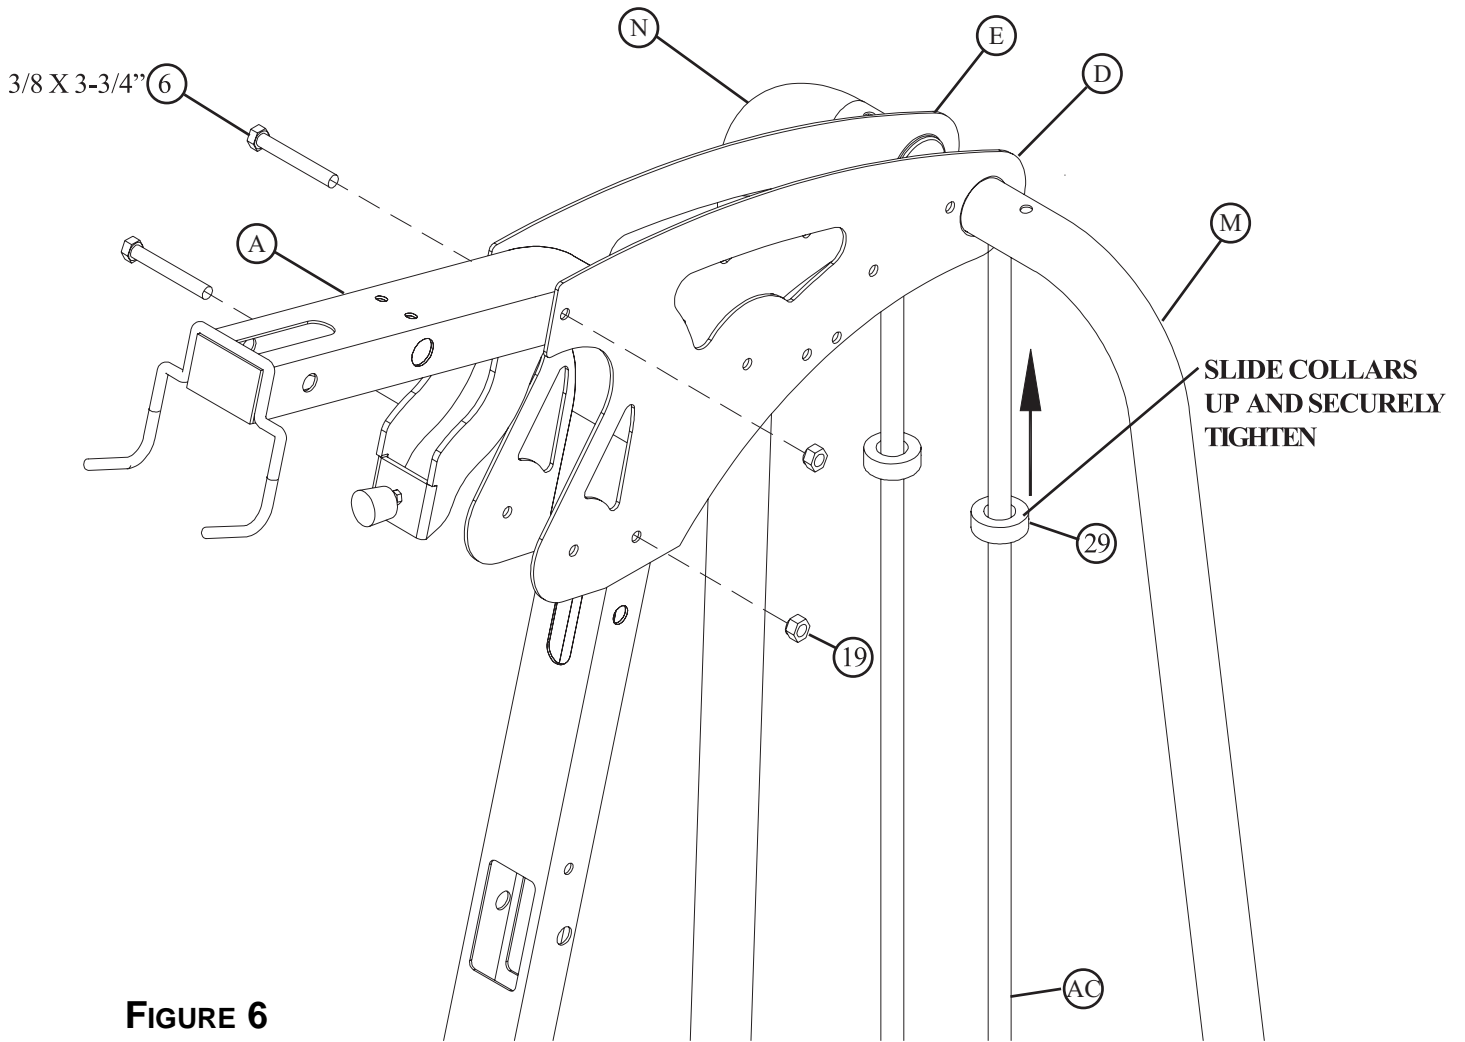

FIGURE 6
- **SECURELY** assemble the LEFT (D) and RIGHT (E) BOOM PLATES to the FRAME (A) using two 3/8 X 3-3/4" BOLTS (6) and two 3/8" SILVER LOCK NUTS (19). See FIGURE 6.
- Slide up both SHAFT COLLARS (29) to the top until flush with the bottom of the guide rod bushings in both the LEFT (M) and RIGHT (N) REAR UPRIGHTS and **SECURELY TIGHTEN** as shown in FIGURE 6.